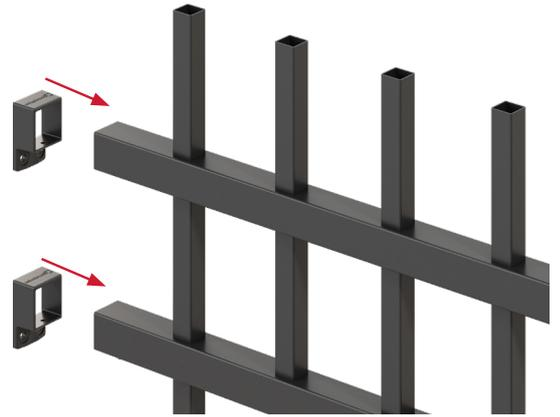

Fig. 7
1. Slide the brackets onto the rails, ensuring the tab is pointing down for the top rail. *Fig. 7*